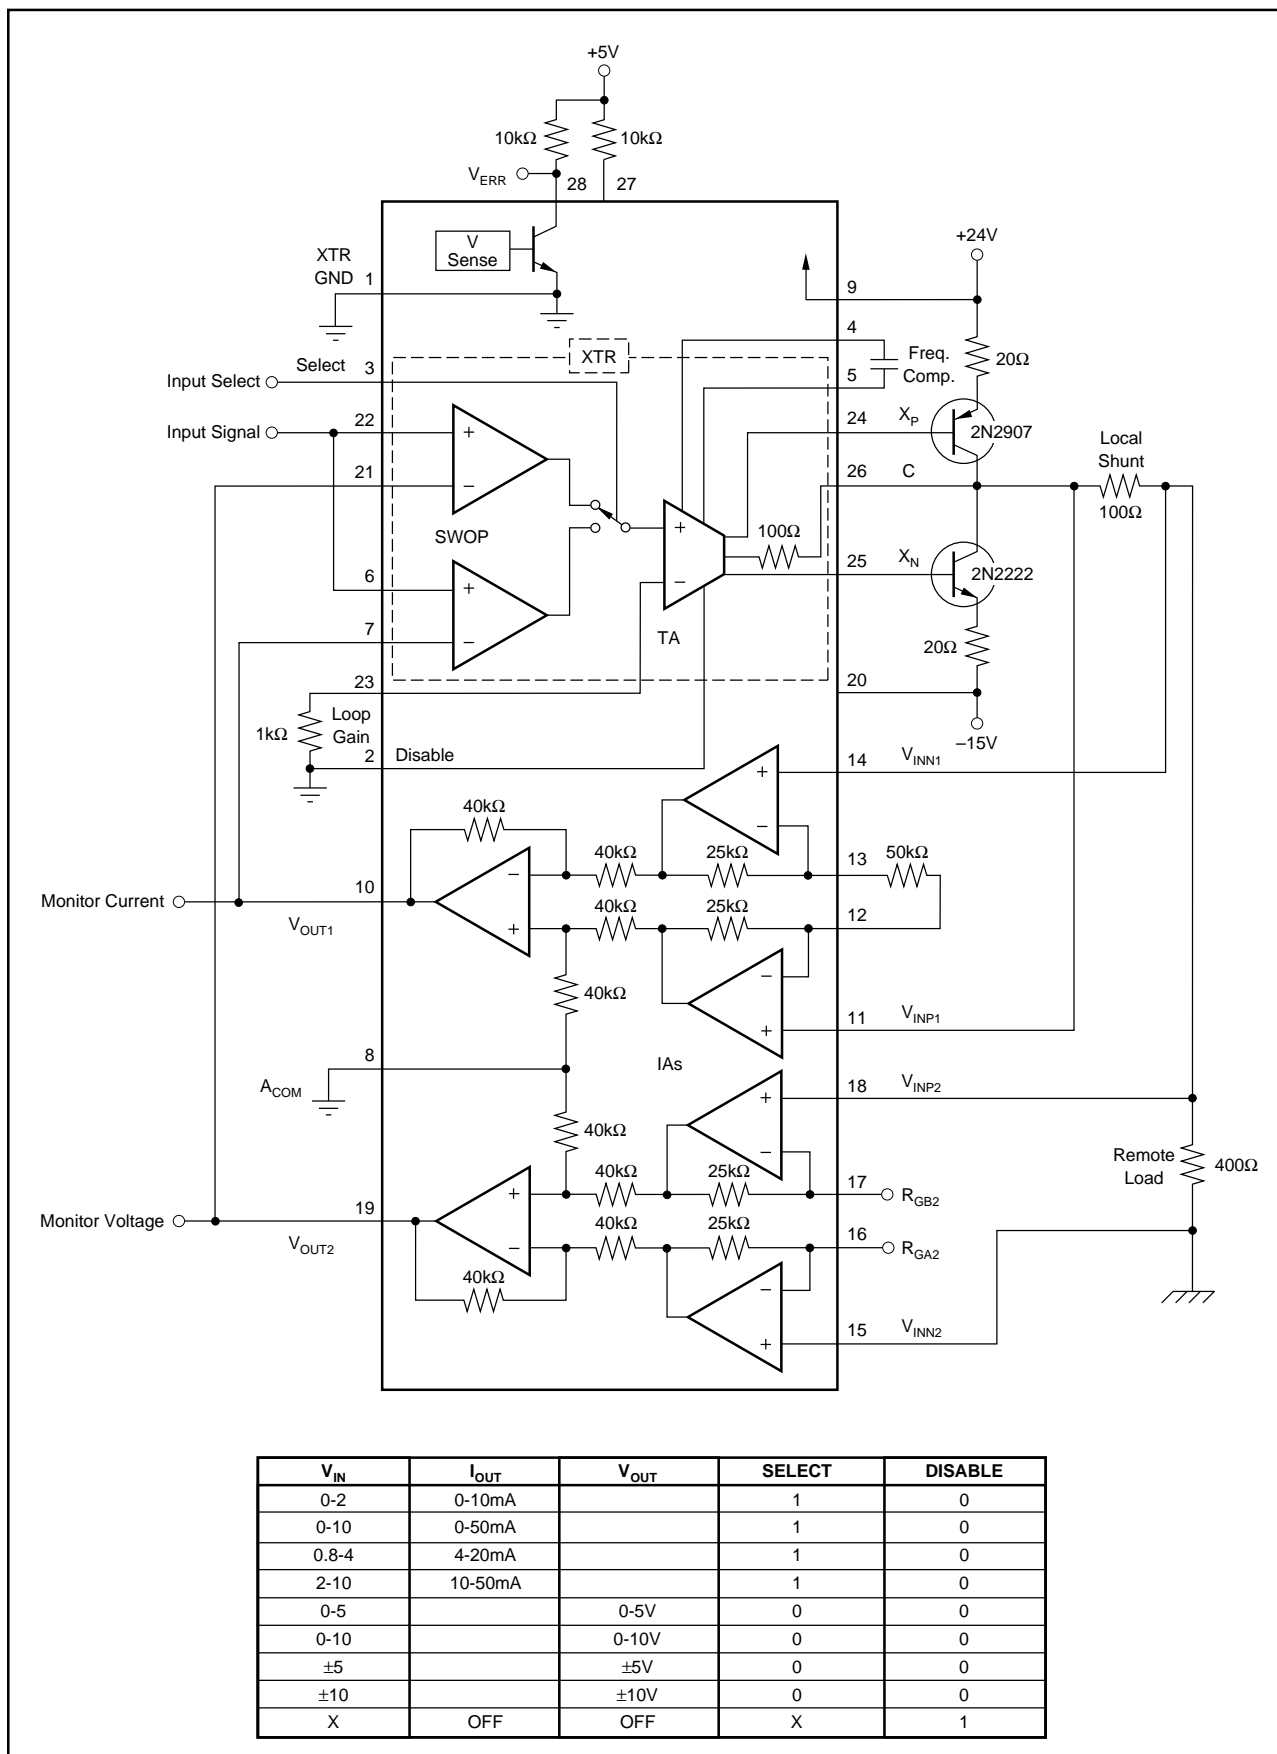

FIGURE 1.
The typical ALD1000 control loop comprises three primary functional blocks (see Figure 1): the current transmitter (XTR), the load, and the instrumentation amplifier (IA). The XTR can be further viewed as divided into the switchable input operational amplifier (SWOP amp), and the voltage to current, transconductance amplifier (TA). Each of these blocks plays a role in the dynamic performance of the control loop, particularly in terms of loop stability with reactive loads.
The transconductance amplifier converts the output voltage of the SWOP amp into an output current to drive the load. Whether used in a current feedback or a voltage feedback loop, the ALD1000 transmitter should be viewed as a source of current not voltage. In a voltage loop, the output current is converted to a feedback voltage by the load. In a current loop the output current is converted to a feedback voltage by the shunt resistor. The external, XTR gain resistor, tied to E (Pin 23, Figure 1), sets the voltage to current ratio.
The ALD1000 includes two, general purpose, uncommitted, 3-op amp, instrumentation amplifiers (see Figure 1). The two IAs are connected to the common power supply and operate at full supply voltage. They share the same analog common reference. Otherwise they are configured independently for maximum flexibility.